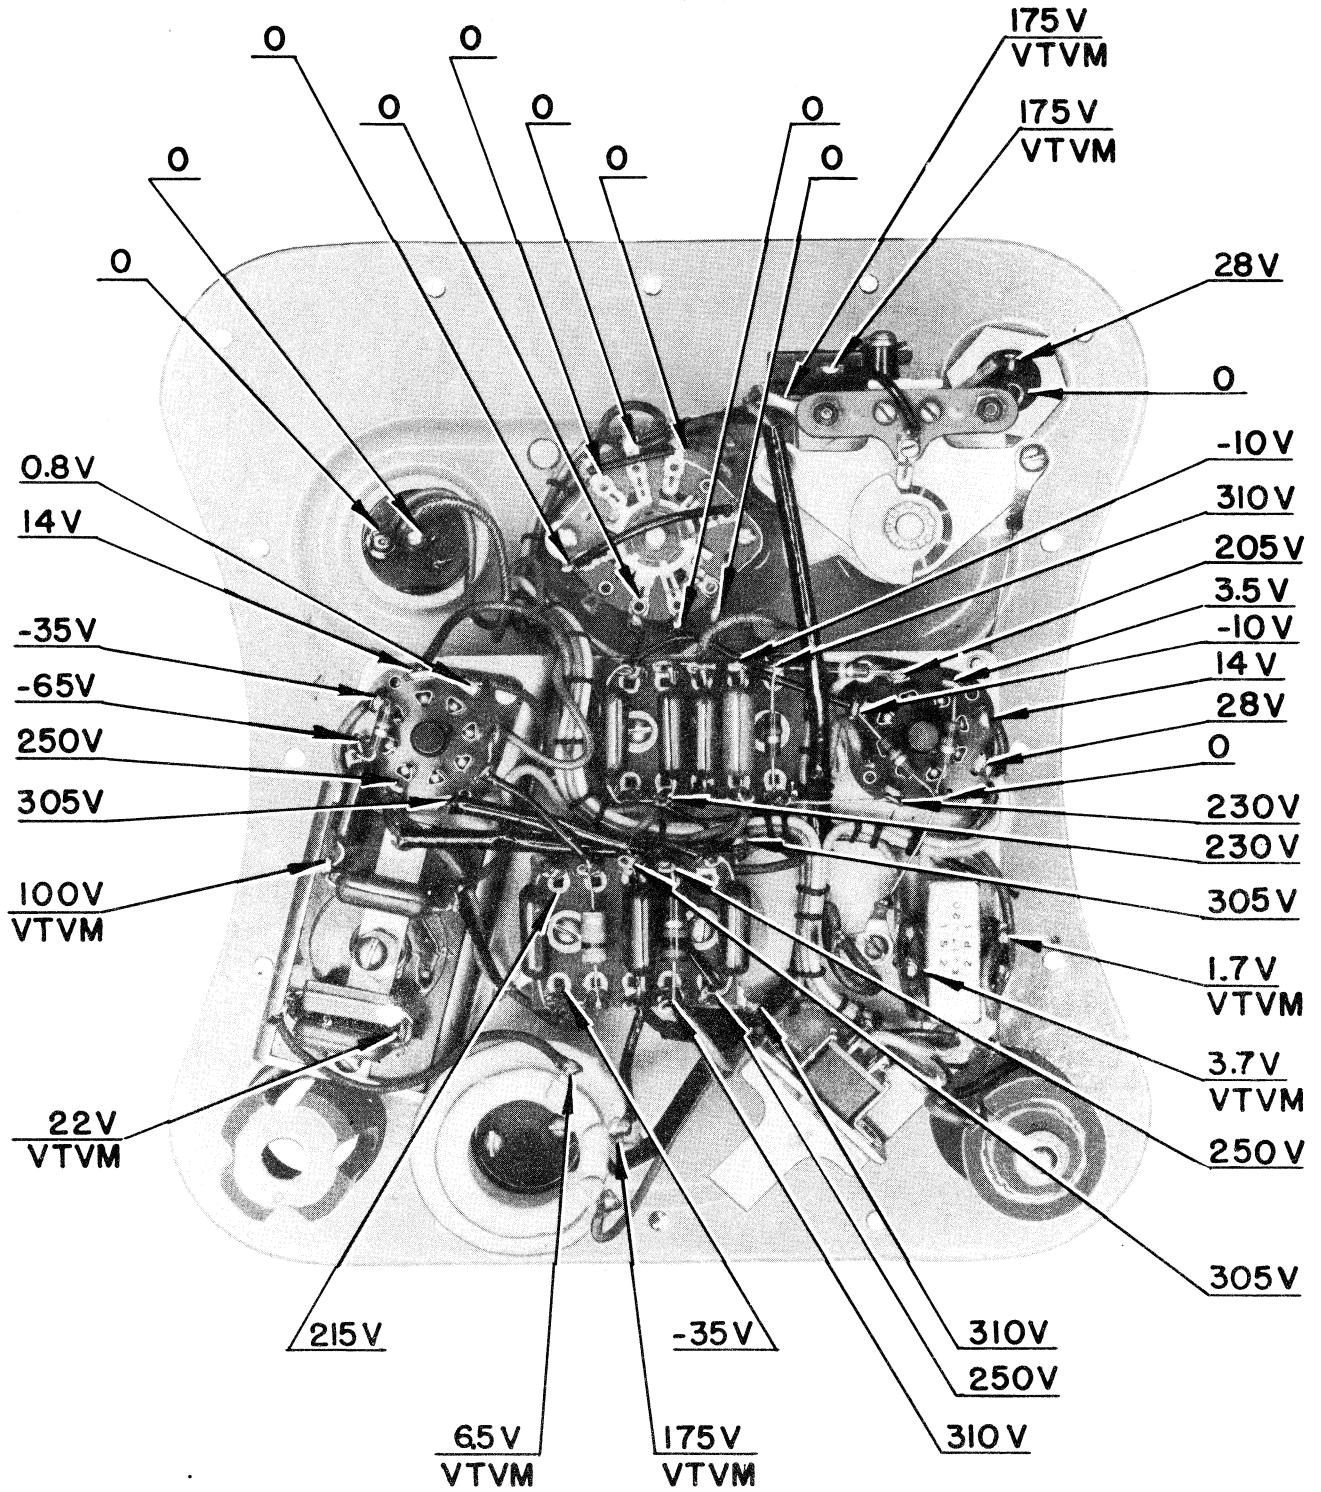

Figure 26—Radio Transmitter BC-778-C, BC-778-D or BC-778-E, Point Voltages of Cover
*g.* Tube socket voltage and others for all models, except Radio Transmitter BC-778-A, are shown in figure 26. Readings refer to chassis ground and are taken with a 20,000-ohms-per-volt meter except when VTVM (vacuum tube voltmeter) is indicated next to the reading. All readings are approximate. The position of the wafer switch is RADIO AUTO 1 (as shown in the figure). Be sure to take readings during the 20-second dash. The type of load is the standard dummy antenna as described in *a* above. A power supply which furnishes the required voltages may be used; if such a power supply is not available, use the crank on the unit and turn at the speed required to light the indicator lamp.